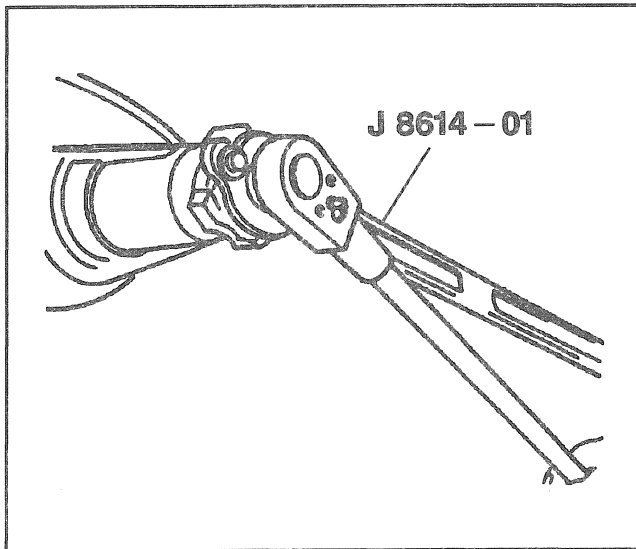

Figure 6—Removing the Drive Pinion Nut
16. Pinion flange nut (35) and washer (36) using J 8614-01 to hold the pinion flange (Figure 6).